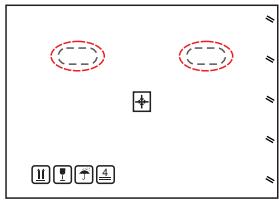

Figure 3.3 Handles used to move the inverter shown circled in red
1. The red circles below denote cutouts on the product package. Push in the cutouts to form handles for moving the inverter around 113KG. (see Figure 3.3).